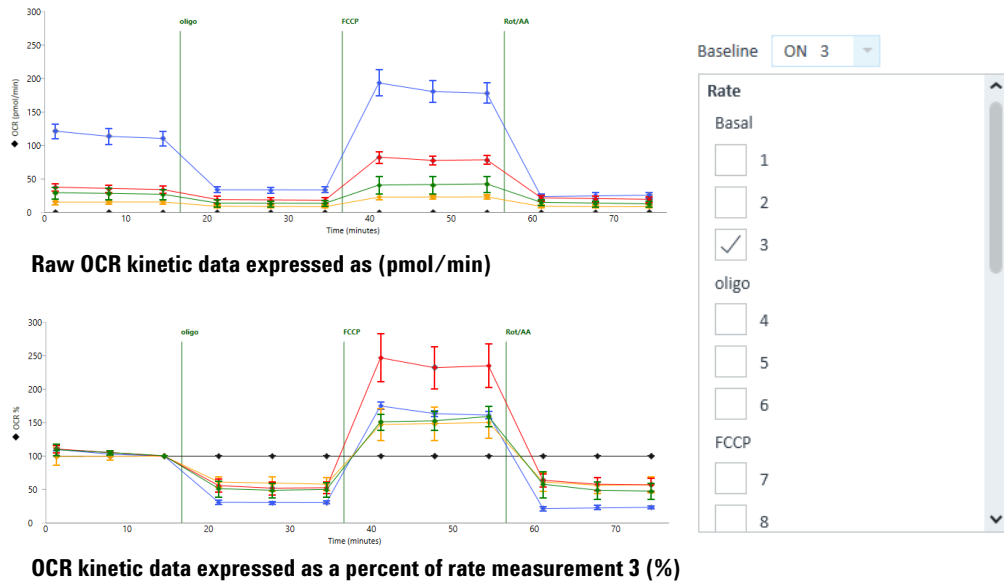

Figure 71 Baseline to a rate measurement
The Baseline function in Wave software enables rate data to be expressed as a percent of (1) a selected rate measurement or (2) a percent of a control group. This feature is available on the Overview and OCR vs. ECAR analysis views only). To express kinetic data as a percent of a selected rate measurement for all groups, use the **Baseline** drop-down menu and select a **Rate** measurement. (See Figure 71.)